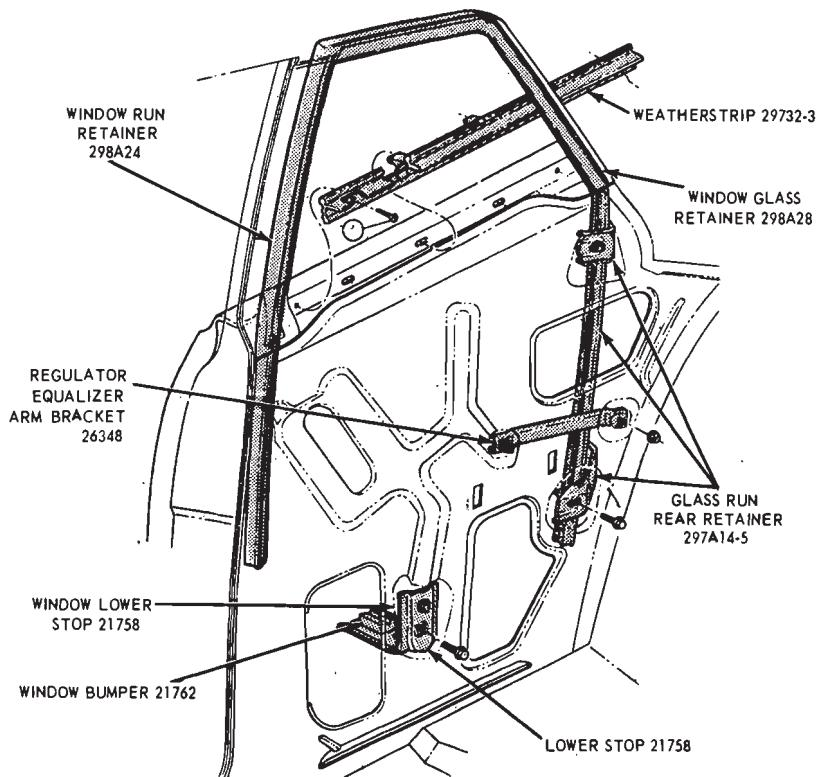

FIG. 4—Quarter Window Glass Mechanism Adjustment—Ford Model 62
2. Lower the window to its full down position. Loosen the lower run retainer retaining screw (Fig. 4). Move the run retainer against the window and tighten the screw and washer A, finger-tight.
3. Raise the window to its full up position. Loosen the upper run retaining screw and washer assemblies (Fig. 4). Move the upper portion of the run retainer assembly against the window glass. Then, tighten the upper and lower run retaining screw and washer assemblies (Fig. 4).
4. With the top edge of the window flush with the belt line, loosen the lower stop retaining screw and washer assemblies (Fig. 4). Adjust the lower stop against the lower edge of the window channel. Then, tighten the lower stop retaining screw and washer assemblies.